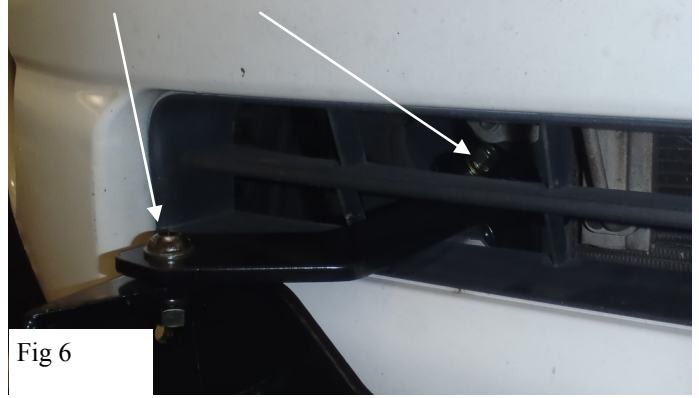

Fig 6
7. Locate the drivers side support strap and attach it to the previously installed reinforcement bracket by placing it through the grille opening, attach using (1) M12 x 40mm hex head bolt, (2) M12 flat washer, (1) M12 lock washer and (1) M12 hex nut. Do not fully tighten at this time. Repeat this step for passenger side (Figure 6). NOTE: It is possible to slip the support strap brackets in from the backside of the grille opening. This prevents forcing them through the front and potentially damaging the plastic.
11. To mount the optional winch mounted grille guard, locate the grille guard and align it to the outsides of the winch tray, attach to the lower mounting brackets using (4) M12 hex head bolts, (8) M12 flat washers, (4) M12 lock washers, and (4) M12 hex nuts. Attach the grill guard to the winch tray using (2) M10 button head bolts, (4) M10 flat washers, (2) M10 lock washers, and (2) M10 hex nuts. Do not fully tighten at this time.